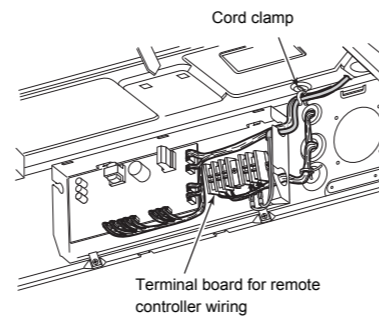

Fig.4
- Put the lead wire from the signal receiving unit along wires of the louver motor and others, and then fix it with the cord clamp. (Fig. 4)